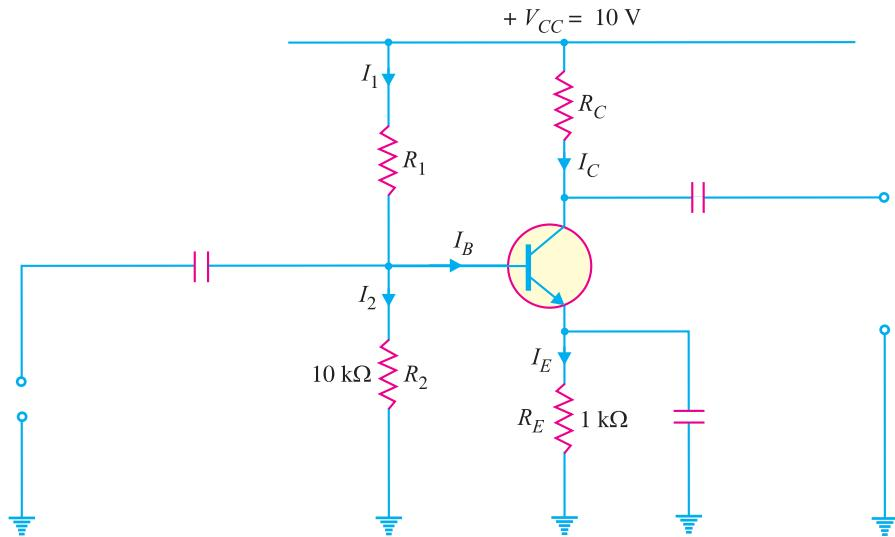

Fig. 9.34
**Example 9.28.** The potential divider circuit shown in Fig. 9.34 has the values as follows:  $I_E = 2 \text{ mA}$ ,  $I_B = 50 \mu\text{A}$ ,  $V_{BE} = 0.2 \text{ V}$ ,  $R_E = 1 \text{ k}\Omega$ ,  $R_2 = 10 \text{ k}\Omega$  and  $V_{CC} = 10 \text{ V}$ . Find the value of  $R_1$ .